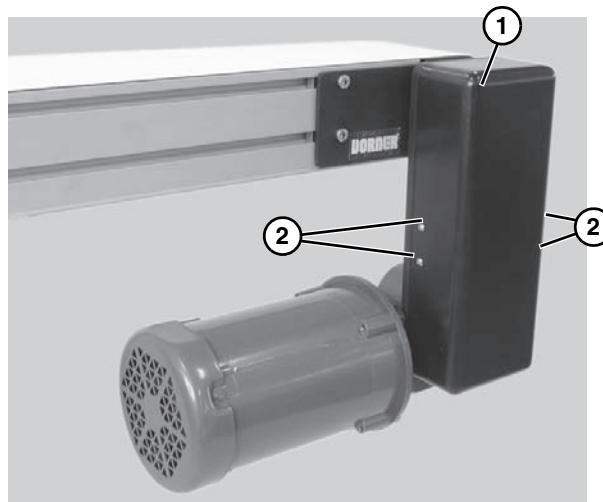

Figure 12
10. Install cover (**Figure 12, item 1**) with four (4) screws (**Figure 12, item 2**). Tighten screws to 35 in-lb (4 Nm).
1. Remove four (4) screws (**Figure 12, item 2**) and remove cover (**Figure 12, item 1**).
4. Install cover (**Figure 12, item 1**) with four (4) screws (**Figure 12, item 2**). Tighten screws to 35 in-lb (4 Nm).
6. Install cover (**Figure 12, item 1**) with four (4) screws (**Figure 12, item 2**). Tighten screws to 35 in-lb (4 Nm).